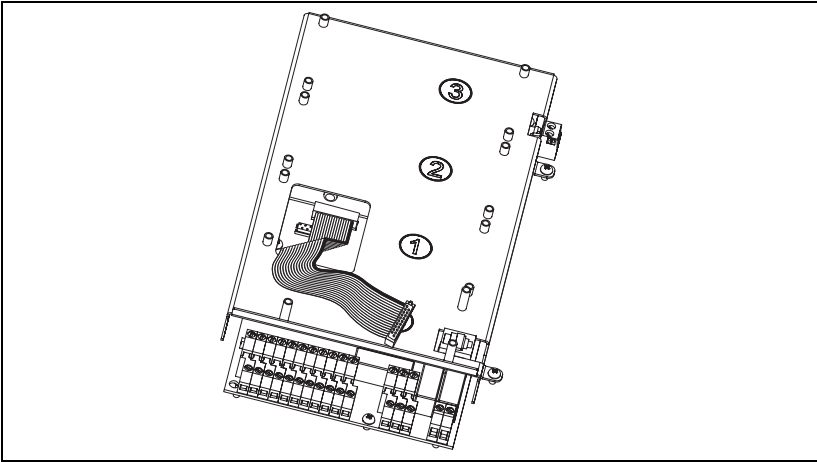

Fig. 2 Flat cable connected to the control board
1. Connect the 16-pole flat cable to the X5 connector on the control board with the cable downwards as in Fig. 2.